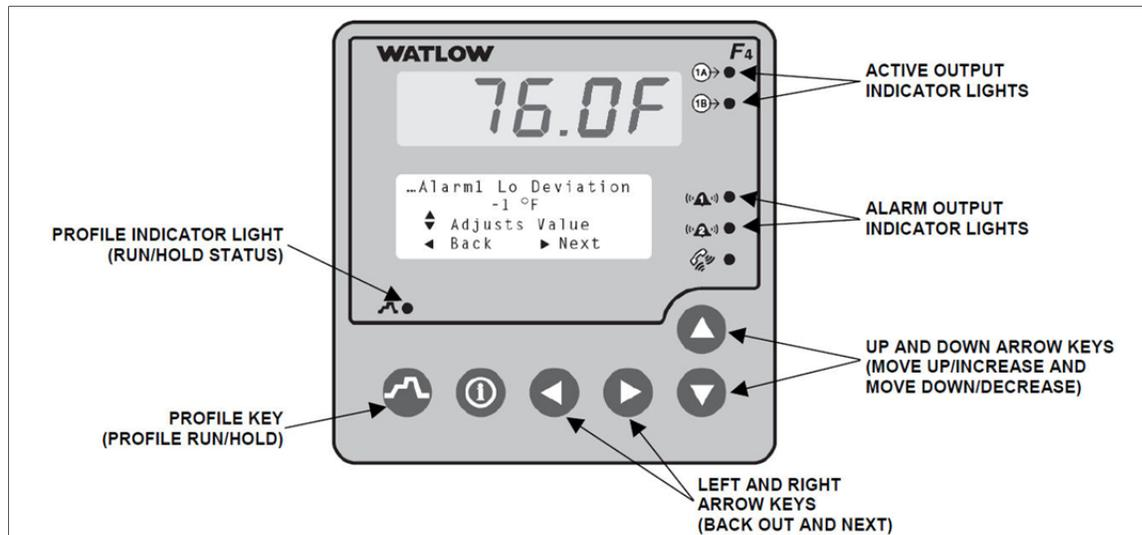

Figure 6 – Names of the Keys and Lights on the Oven Controller
- ❑ Turn on oven using the preset profile (see Figure 6 for the names of the keys on the controller)